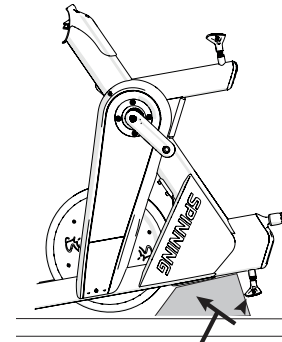

Figure 1
1. Stand the bike frame on its front end (toward flywheel) and cushion the bike frame (Figure 1) with a towel or piece of foam to protect the handlebar adjustment pop-pin stem from damage.